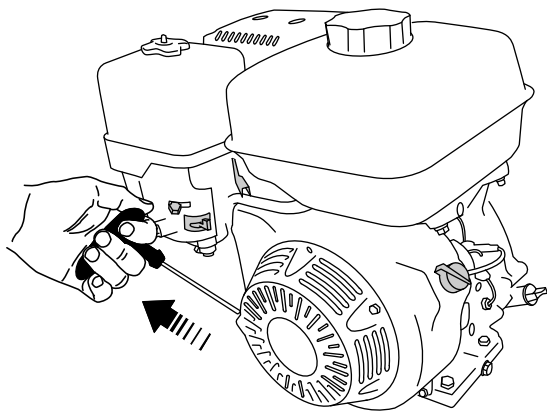

Figure 35
5. Pull the recoil-start handle lightly until you feel resistance, then pull the handle briskly. Return the recoil-start handle gently (Figure 35).